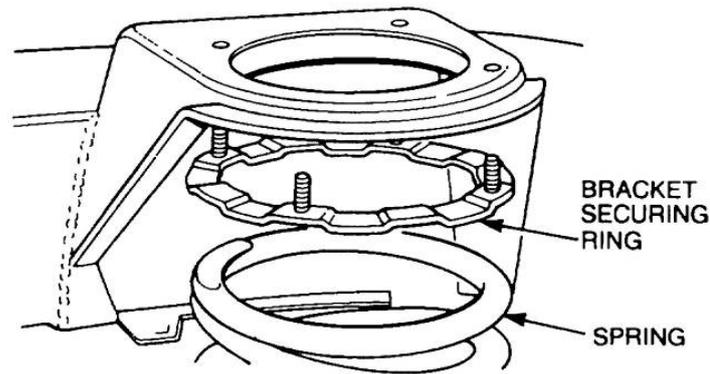

Figure 150 Removal of the Front Spring
- j. Lower the axle on the side the spring is to be removed. Remove the spring and bracket securing ring (Figure 150).